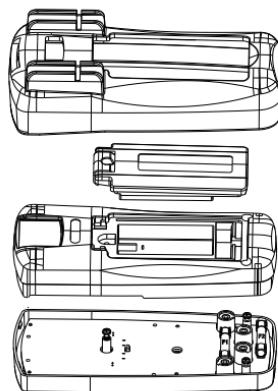

Figure 11
**2. Replacements (see Figure 11)****Battery replacement:**